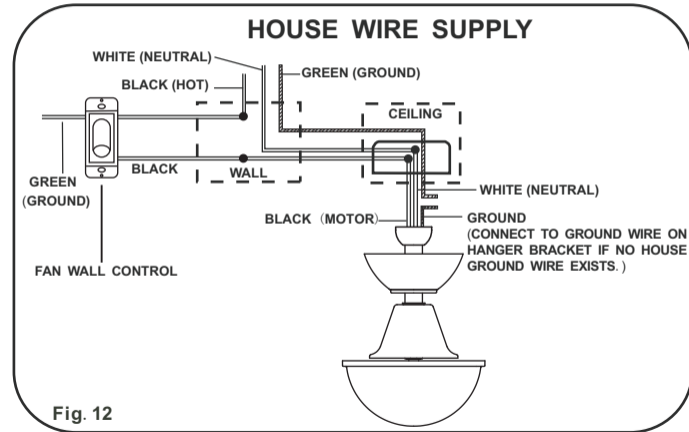

Fig. 12
Step 3. Make wire connections (Fig. 12) and secure with wire nuts supplied.